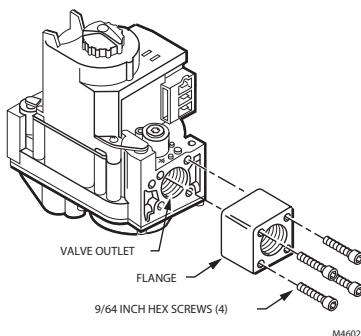

Fig. 1. Fasten flange to valve firmly, but do not overtighten screws.
4. With O-ring facing control, line up the screw holes on the control with the holes in the flange. Insert and tighten the screws provided with the flange. See Fig. 1. Tighten the screws to 25 inch pounds of torque to provide a gas-tight seal.